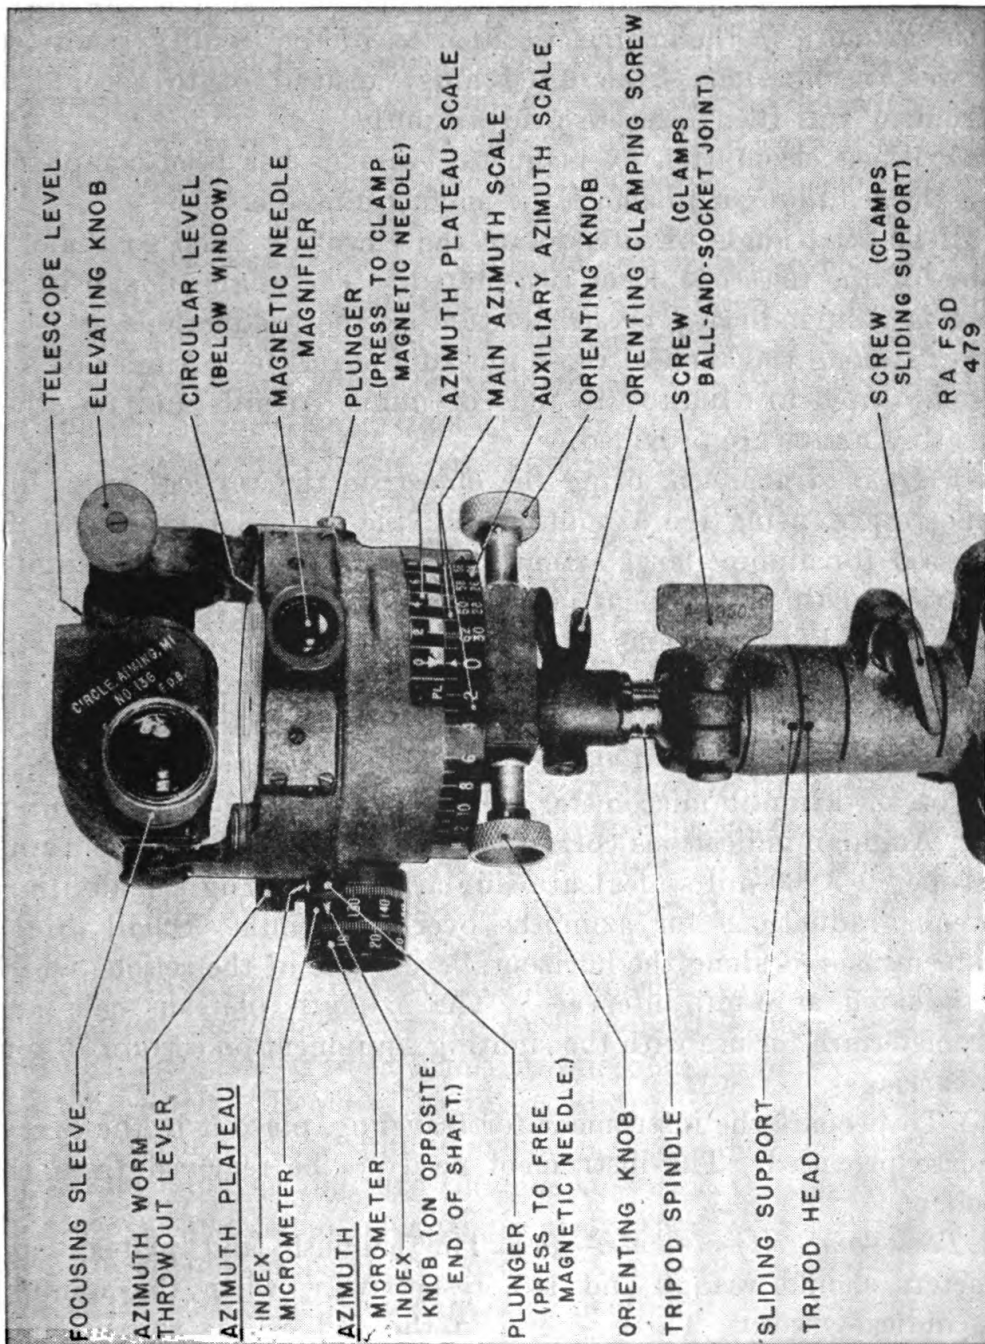

FIGURE 52.—Aiming circle M1, without instrument light.
**64. Circle, aiming, M1.—a. Description.**—This instrument (fig. 52) is used for measuring angles in azimuth and site and for general topographic work. It includes a 4-power telescope with a laterally and vertically graduated reticle, 2 levels, a declinator, elevating, orienting, and azimuth mechanisms, and azimuth scales and micrometers. Azimuth indications are in mils, numbered to correspond to the scale indications of other instruments commonly used with the aiming circle. No scale other than that on the reticle is provided for vertical angles. The instrument is furnished complete with tripod and carrying case.
**c. Operation.**—(1) To set up the instrument, clamp the tripod legs at the desired length and embed them firmly in the ground. Clamp the sliding support of the tripod at the desired height. Level the instrument using the circular level and the ball-and-socket joint. Focus the telescope as required, using the sleeve on the eyepiece.